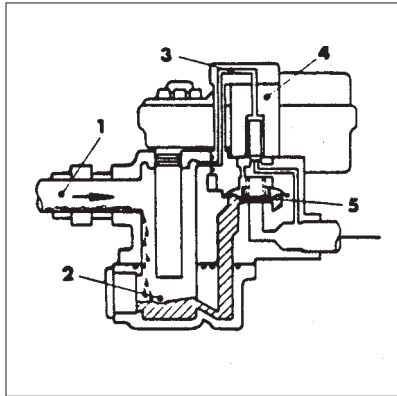

FIG 1: Condensate collection
Fig. 1 Condensate passes through the inlet opening (1) into the collecting container (2). The diaphragm valve is closed, since the pilot-supply line (3) and the solenoid valve (4) ensure pressure compensation above the valve diaphragm (5). The larger space above the diaphragm results in a high closing force. The valve seat remains tightly closed without leakage loss.